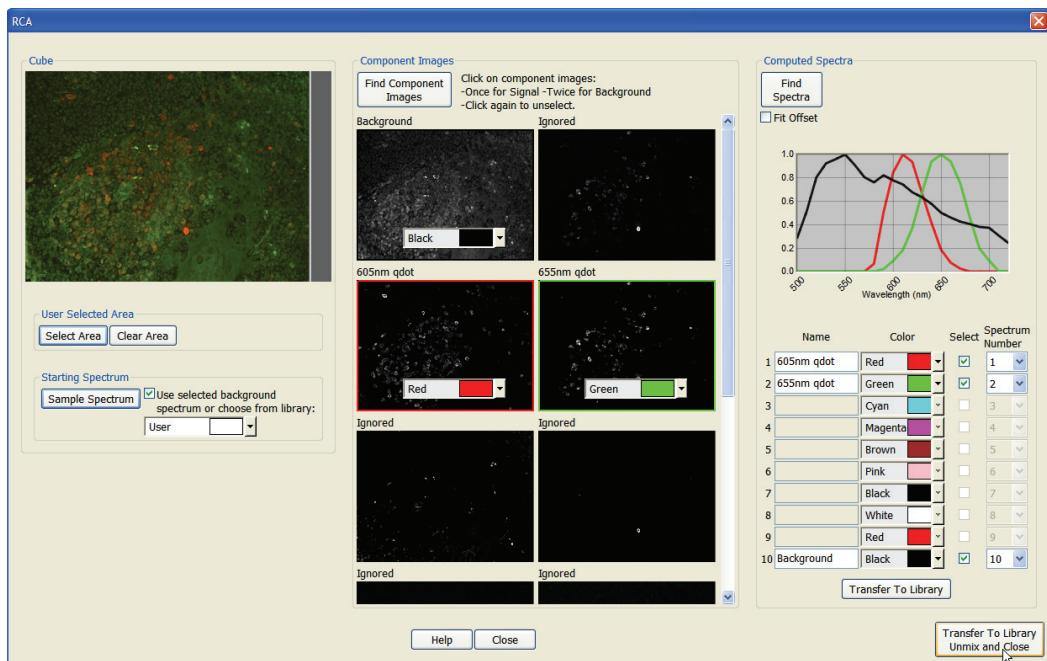

Figure 30. Real Component Analysis
2. The **RCA** dialog box opens (see Figure 30).
5. Click the **Find Component Images** button to find the purest spectral features in the image. A set of monochrome images of spectrally distinct signals will soon appear at the right of the cube display window (see Figure 30). The number of images reflects the spectral complexity of the sample.